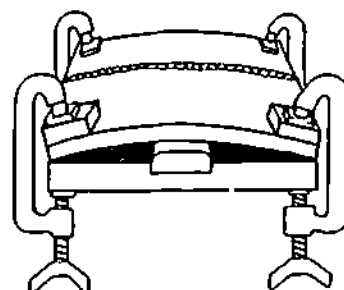

Figure 8-29. Pre-Bending
1. Pre-bending using clamps and fixtures (Figure 8-29).